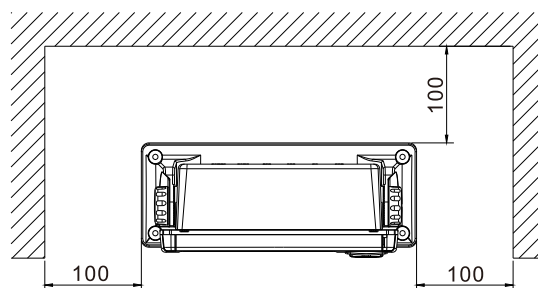

Figure 5.2 Servicing Access space required
3. Place the mounting bracket to the place where the display unit is to be installed, and fix the bracket with four (4) M5 tapping screws. Provide enough space for servicing. (Refer to Figure 5.2)
4. Reset the display unit on to the bracket and fix using the two knobs that were removed in step (1).